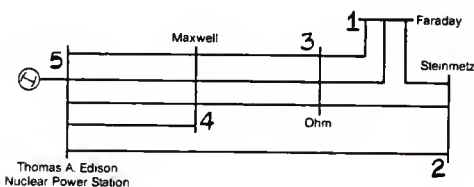
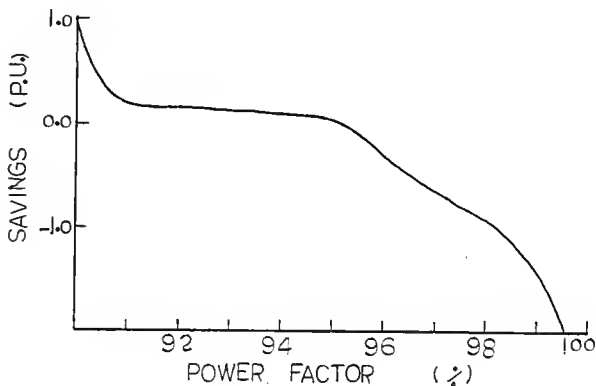

Figure 5: Power System # 3.
Figure 6: Savings v.s. Power Factor for System # 3.
3. In Figure 5, the desired power system is shown (3). Values of real power (P), reactive power (Q), voltage magnitude (V), voltage angle (θ) at each bus, and line impedances are given in Table 5.
Appendix A.22 contains load flow output for the above system. The economic power factor of the electric power system shown in Figure 5 can be determined from Table 6, which contains total benefits, capacitor installation costs, and savings, and Figure 6, which shows a graph of per unit savings v.s. power factor.
From Figure 6, it can be concluded that the economic power factor of this system is 95.15%, since savings are not attained at larger power factors.